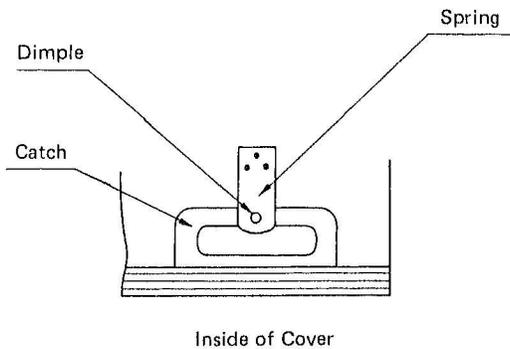

Fig. 19
- e. Refer to Figures 19 and 20. While depressing the flat spring inside the cover with the fingers of your right hand, push the top portion of the cover down with your left hand. Then, the leaf spring will be released from the dimple.